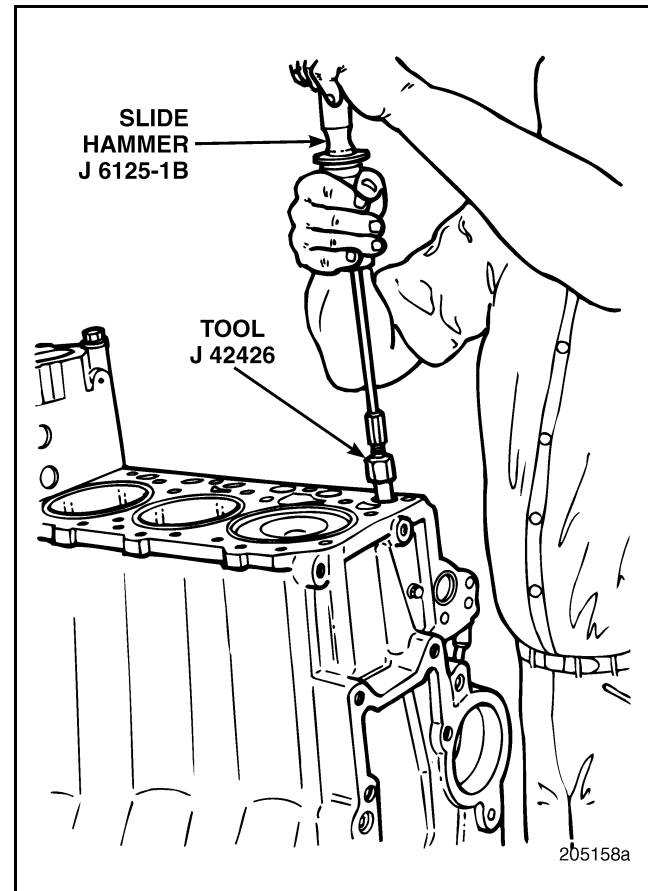

Figure 132 — H-Ring Removal
1. Remove the affected H-ring, using remover tool J 42426 in combination with slide hammer J 6125-1B. Refer to Figure 132.